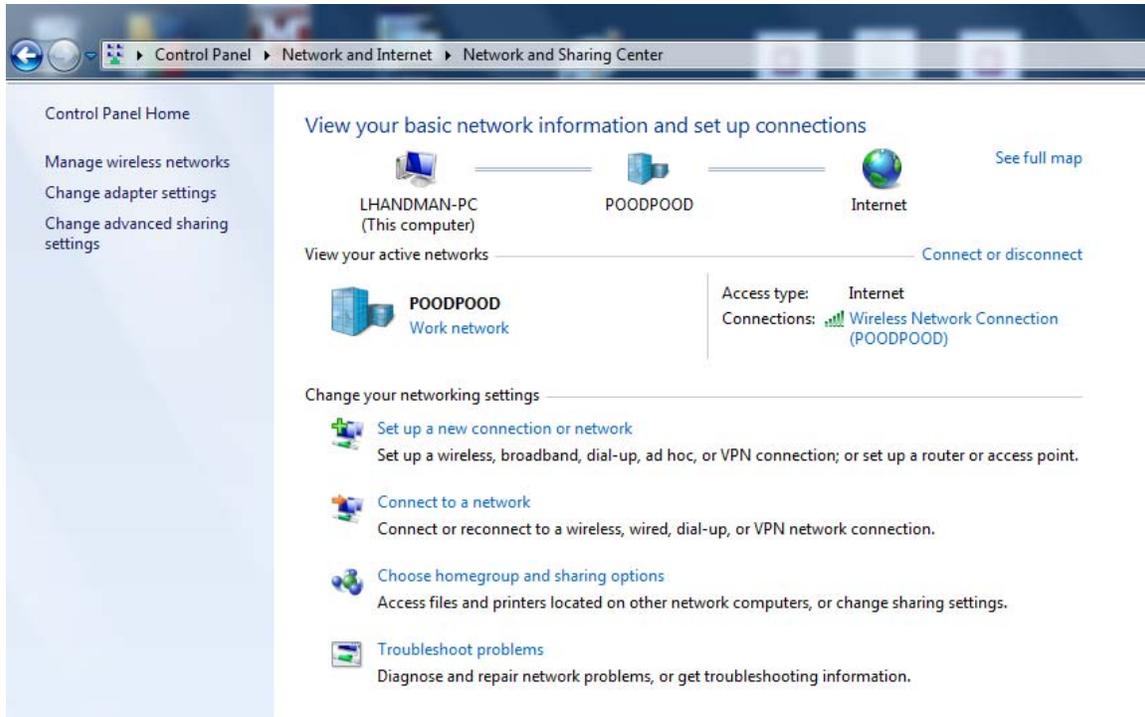

Figure C7. Windows 7 configuration for fixed IP address screen 1
1. Go to Start ► Control Panel ► Network and Internet ► Network and Sharing Center. You will reach a screen shown in Figure C7: